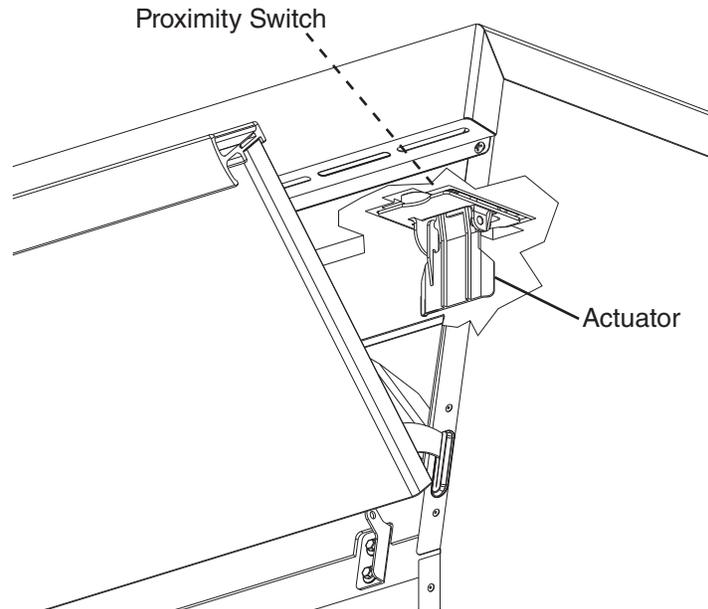

Fig. 4
- 6) Once the "COMP" LED is on and compressor is energized, press the actuator paddle located in the ice storage bin (actuator paddle engaged). See Fig. 4. The 90-sec. compressor shutdown timer starts. Once the 90-sec. compressor shutdown timer terminates, compressor and fan motor de-energize and the 60-sec. gear motor shutdown timer starts. Once the 60-sec. gear motor timer terminates, gear motor de-energizes. Release the actuator to start the automatic icemaking process.